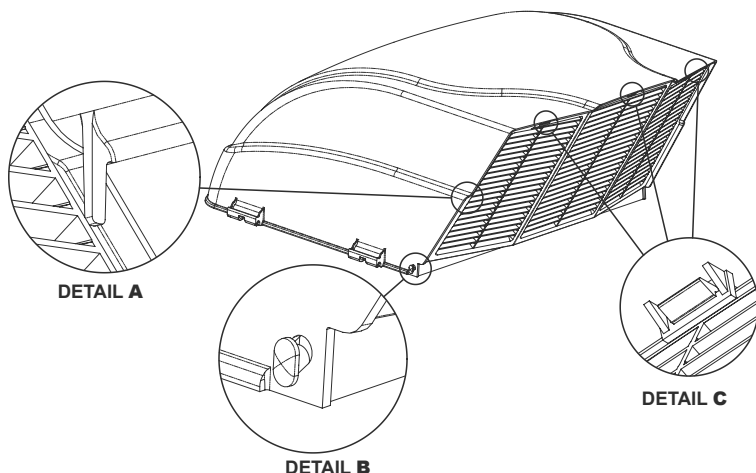

Figure 2
4. Rotate Louver section upward and snap into top of the Vent Cover Body. Make sure the Louver edge goes behind the tabs inside of the Vent Cover Body as shown in Detail A in Figure 2.
5. Be sure all three (3) snaps are secured and both oval shaped tabs remain in the slots as shown in Details B and C in Figure 2.